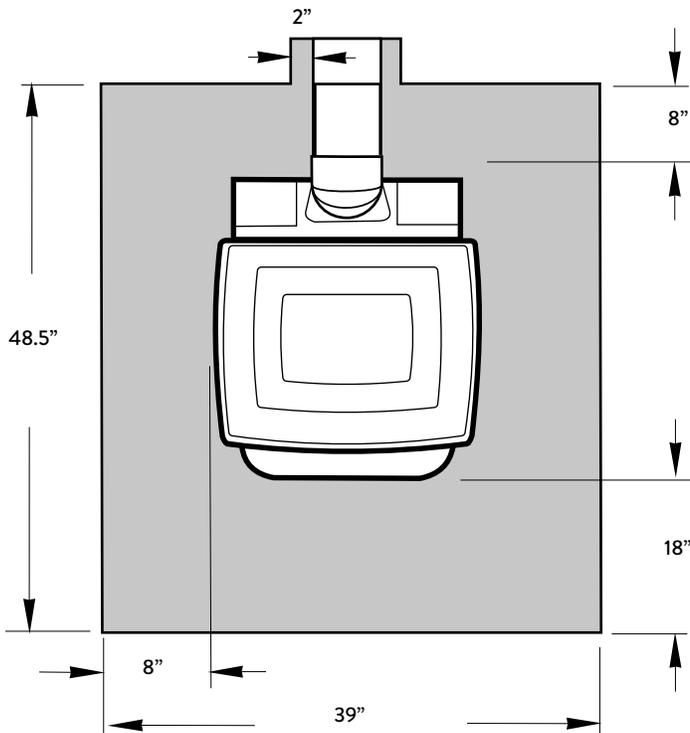

Figure 10. Floor Protection minimum dimensions, CAN. Rear Exit.
**IN CANADA:** Floor protection must extend continuously 18" from the front of the stove and 8 in. from the sides and rear. It must also extend 2 in. under any horizontal chimney connector. This results in a floor protector dimension of 39" wide x 48.5" deep for rear exit and 39" wide x 47.75" deep for top exit. See figs.10 and 10a.